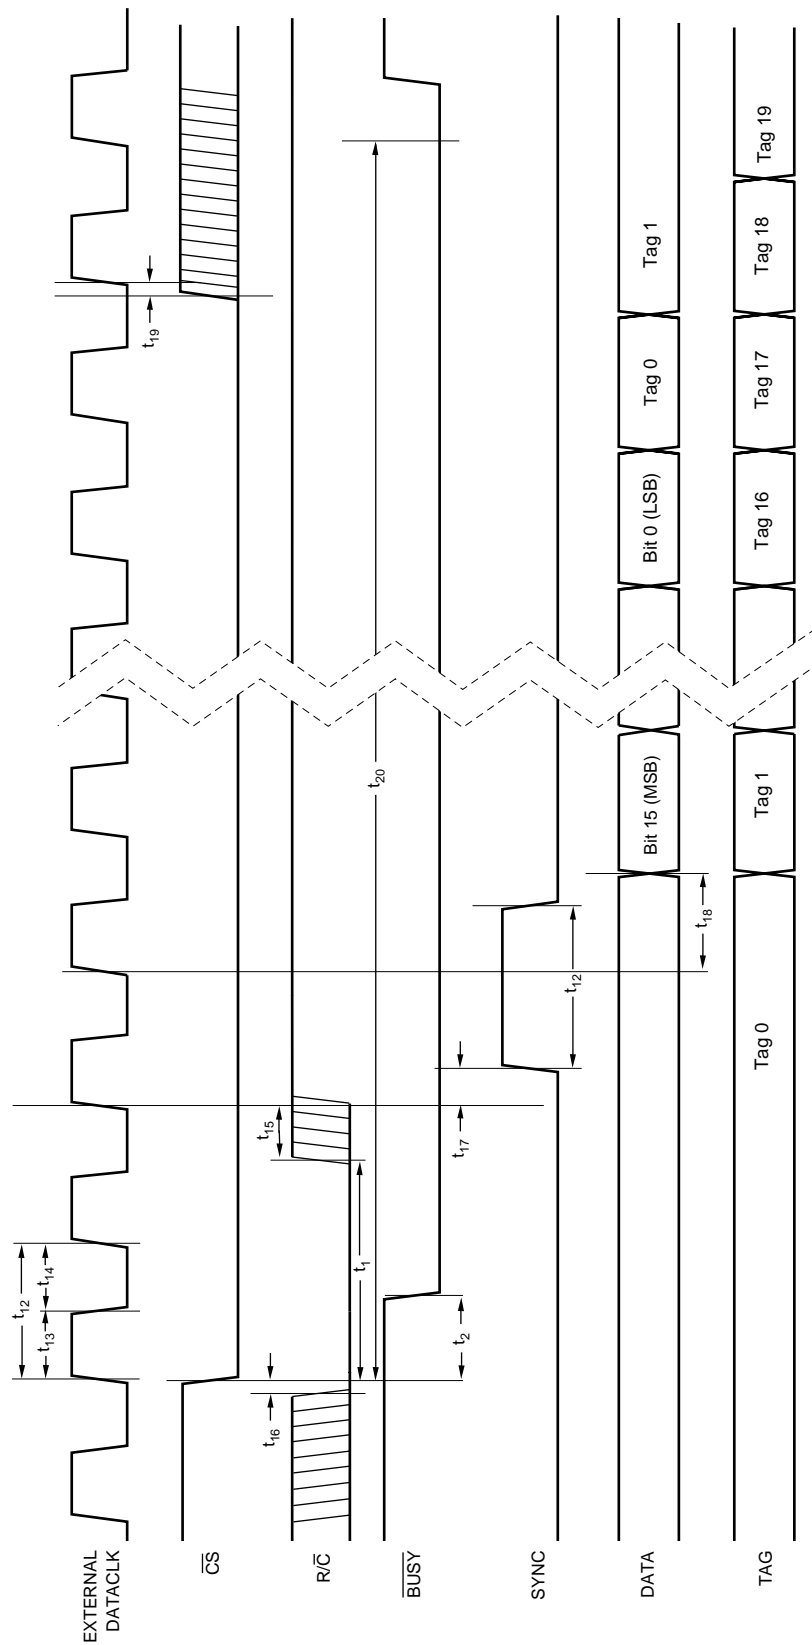

FIGURE 3b. Conversion and Read Timing with External Clock. (EXT/INT Tied High.) Read During Conversion (Previous Conversion Results).
NOTE: (1) See Figure 3b for constraints on previous data valid during conversion.